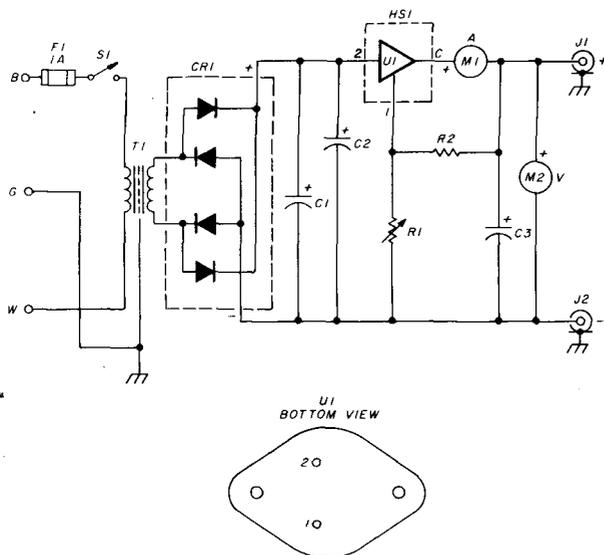

fig. 1. Schematic of the bench power supply. Basic design consists of a full-wave power supply followed by a three-terminal IC regulator.
The bench supply schematic is shown in **fig. 1**. Component count is very low. The basic design con-
**Parts list for fig. 1:**